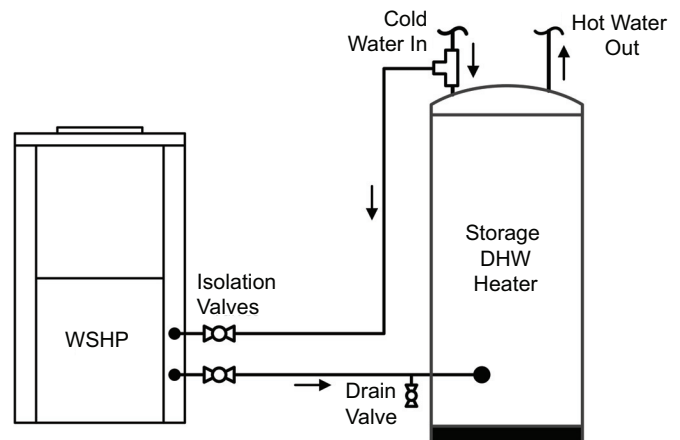

Fig. 17 — Typical Hot Water Generator Installation
7. Install HWG water piping. All hot water piping should be a minimum of 3/8 in. OD copper tube to a maximum distance of fifteen feet. For distances beyond fifteen feet but not exceeding sixty feet use 1/2 in. copper tube. Separately insulate all exposed surface of both connecting water lines with 3/8 in. wall closed cell insulation. Install isolation valves on supply and return to the hot water generator. See Fig. 17.